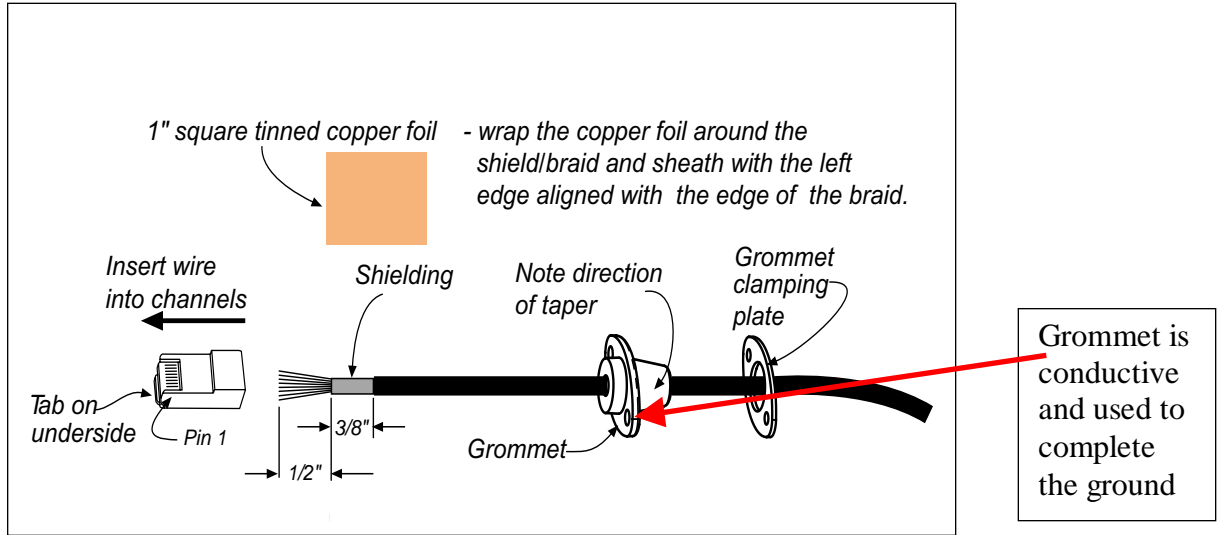

Figure 6-11 Outdoor Transceiver End of the Interconnect Cable with Cable Preparation
4. Insert the cable end through the grommet clamping plate (Figure 6-11)